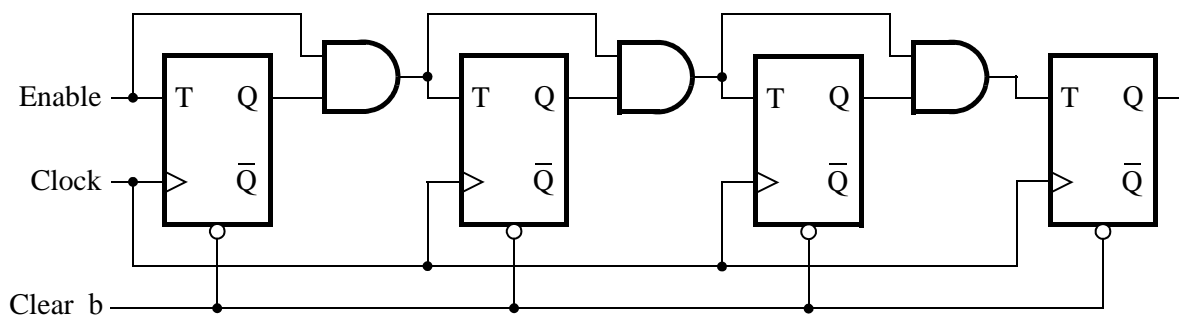

Figure 1: A 4-bit counter.
Consider the circuit in Figure 1. It is a 4-bit synchronous counter that uses four T-type flip-flops. The counter increments its value on each positive edge of the clock if the *Enable* signal is 1 (*i.e.* high). The counter is reset to 0 by setting the *Clear\_b* signal low, which means that the clear is an **active-low asynchronous** clear. (In Logisim, all the input signals are asynchronous active high by default.) You should implement an 8-bit version of this counter.
1. Draw the schematic for an 8-bit counter using the same structure as shown in Figure 1. **(PRELAB)**
2. Annotate all Q outputs of your schematic with the bit of the counter ( $Q_7Q_6Q_5Q_4Q_3Q_2Q_1Q_0$ ) that they correspond to (where  $Q_7$  is the most significant bit and  $Q_0$  is the least significant bit. Label the inputs according to the diagram in Figure 1. **(PRELAB)**